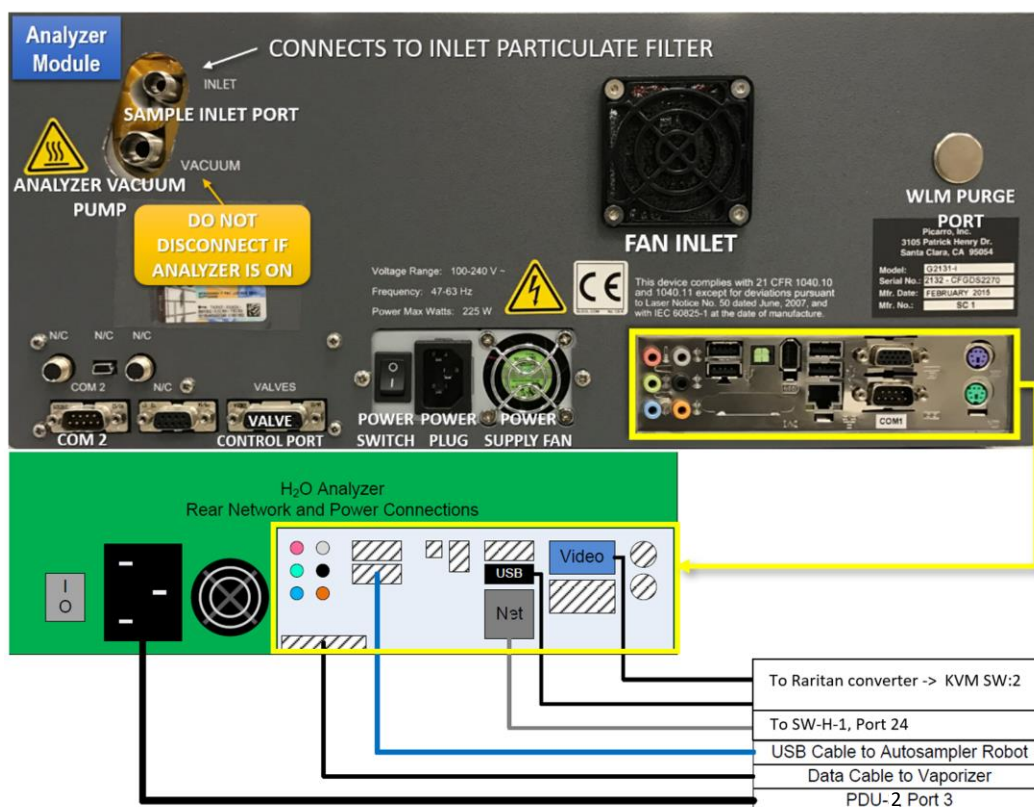

Figure 114. H2O Analyzer Rear Connections.
7. Attach the KVM connections, Ethernet cable, and a VGA monitor display cable to the computer connections on the back of the Analyzer (see **Figure 114**).